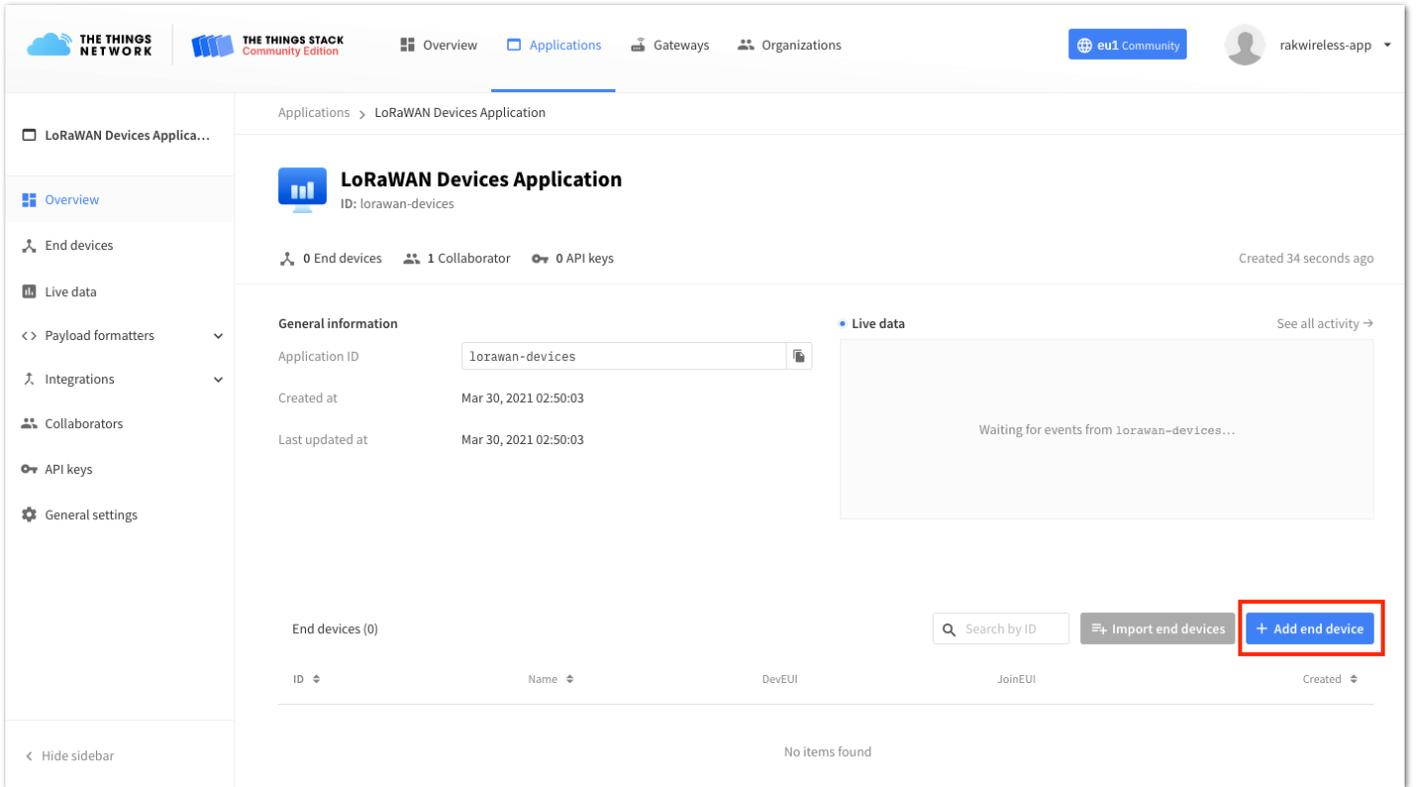

Figure 58: Adding ABP device
1. To register an ABP device, go to your application console and select the application where you want your device to be added. Then click **+ Add end device**, as shown in **Figure 58**.